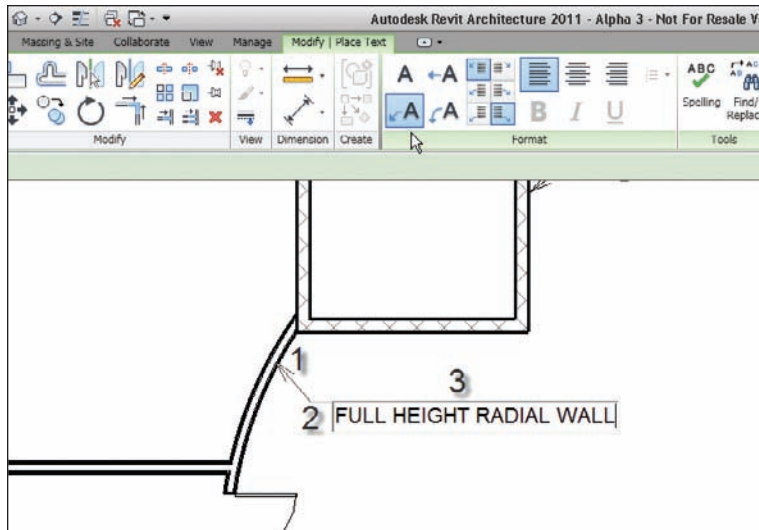

FIGURE 5.50 Adding a piece of leader text
2. On the Options bar, click the Two Segments button, as shown in Figure 5.50.
3. Pick a point near the radial wall, as shown in Figure 5.50.
4. Pick a second point similar to “2” shown in Figure 5.50.
It almost seems as though Revit uses the ugliest leader as a default, forcing you to change it immediately. The large arrowhead you see in Figure 5.50 is not the only arrowhead Revit provides—had that been the case, Revit would never have even gotten off the ground!